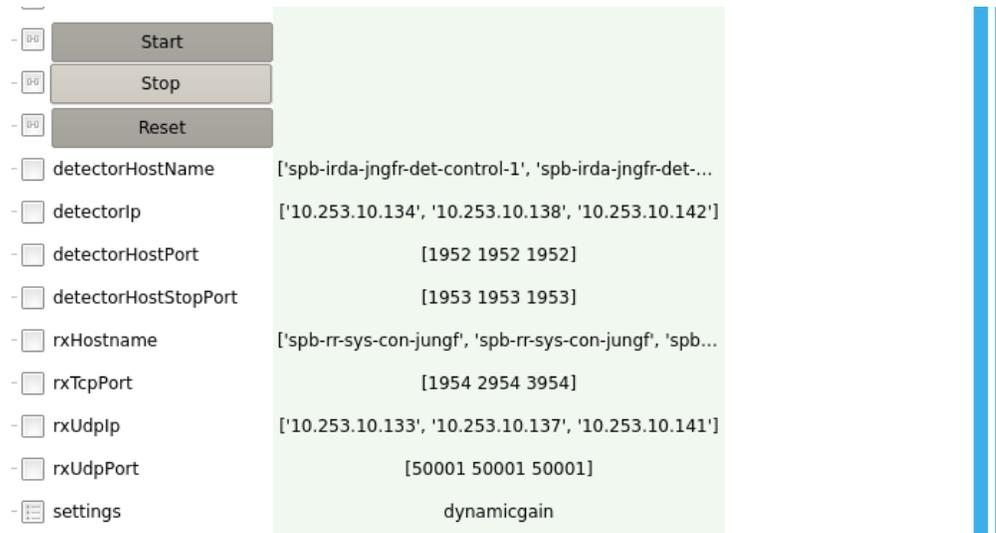

Fig. 2.2: Detail of a JUNGFRAU CONTROL device
**Note:** all these fields in the CONTROL device are actually lists; to control more modules simultaneously, it suffices to insert all the parameters for every module in each list; one must pay attention that the parameters for a particular module are inserted always at the same position in each list (see e.g. Fig. 2.2).
- go the CONTROL device and fill in the *RX TCP Port* list with the values assigned to each RECEIVER (see e.g. Fig. 2.2).